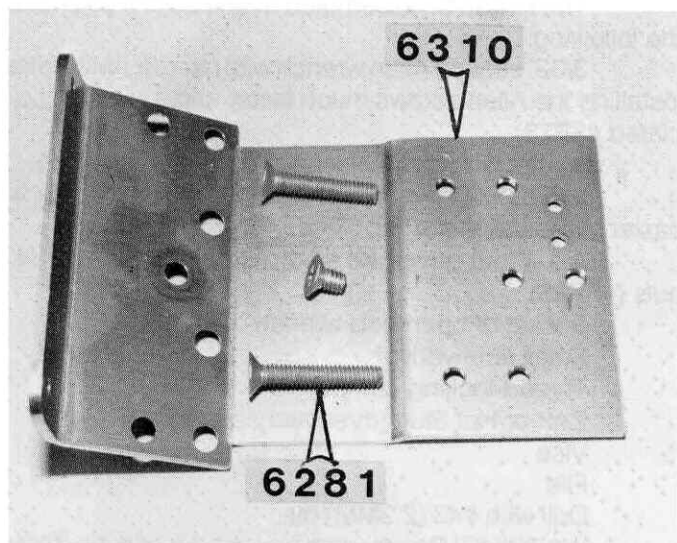

Fig. 1
□ **Fig. 1** We'll start with Fig. 1. Only take the parts out of the bag that we tell you, and no others. Look for bag #6-4 and take the #6310 gold anodized nose piece out of the bag, as shown in the photo and the shortest Phillips flat head screw, as shown. DO NOT take anything else out of the bag. Now take the 2 Phillips screws out of bag #6-2, but nothing else.